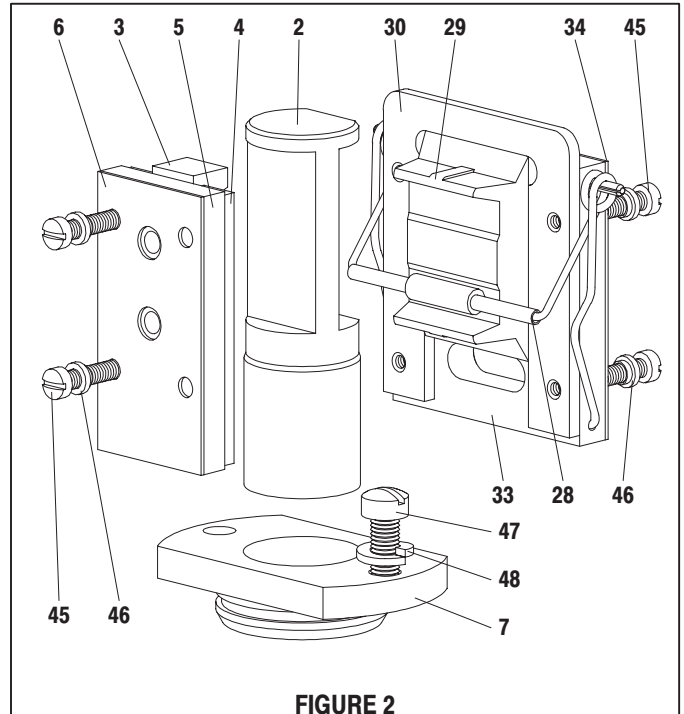

FIGURE 2
5. With a screwdriver, unhook the (28) insert spring assembly from the bottom of the (33) valve plate and pin assembly (see figure 2).
6. Remove the (28) insert spring assembly from the pins in the top of the (33) valve plate and pin assembly.
7. Pull the (2) valve piston upward until the (7) upper gland has pulled out of its chamber.
8. Remove the (7) upper gland.